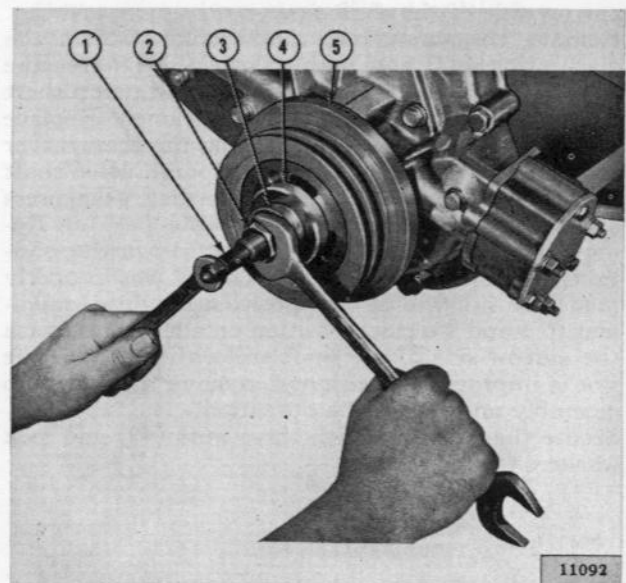

FIG. 133—INSTALLING VIBRATION DAMPER WITH TOOL C-3732-A
b. Turn the center post (1, Fig. 133) of vibration